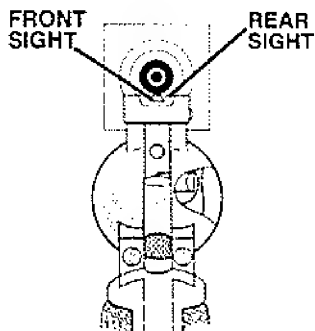

FIGURE 11-AIMING
4. Grasp revolver by grip and, with index finger resting along the outside of trigger guard, take aim. (Aim by aligning target with front and rear sights. See Figure 11.)